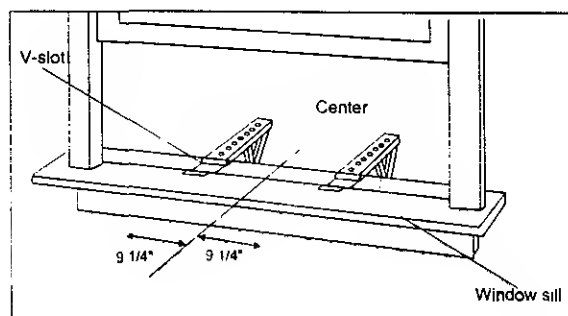
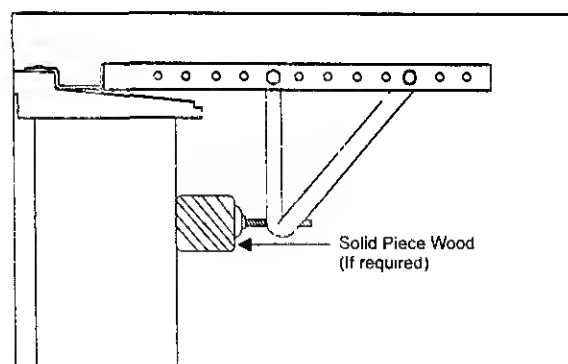

Fig 14
Fig 15
Two bolts per bracket. Secure with the (2) **1/4"** lock washers and (2) **1/4"** nuts. **DO NOT** immediately tighten these bolts as it may be necessary to adjust the depth of the **bracket assembly**, depending on the depth of your window sill. See (Fig 14). Install the two **leveling screws** into the 90° support brackets. Test the bracket assembly in the window before cabinet installation. If the leveling screws are distanced too far away from the wall to provide stability, it may be necessary for you to shim this area with a solid piece of wood. See (Fig 15).
B. Measure the inside window sill width and find the center as shown in (Fig 14) Measure 9 1/4" from the center line on each side and mark these points. Align the **V-slot** in each bracket on these marks and mount the brackets to the sill using **3/4" screws** provided. Brackets should be perpendicular to the inside window sill. See (Fig 14)
Use a solid piece of wood to provide stability. This will be required when sills are extra deep. See (Fig. 15).